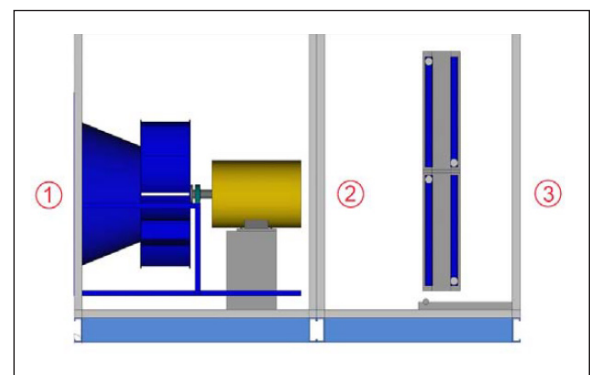

Figure 2 Blow-Through
Referring to Figure 2, we normally know the return air temperature (1) and a desired leaving coil condition (3). But need to calculate the entering coil air temperature (2).